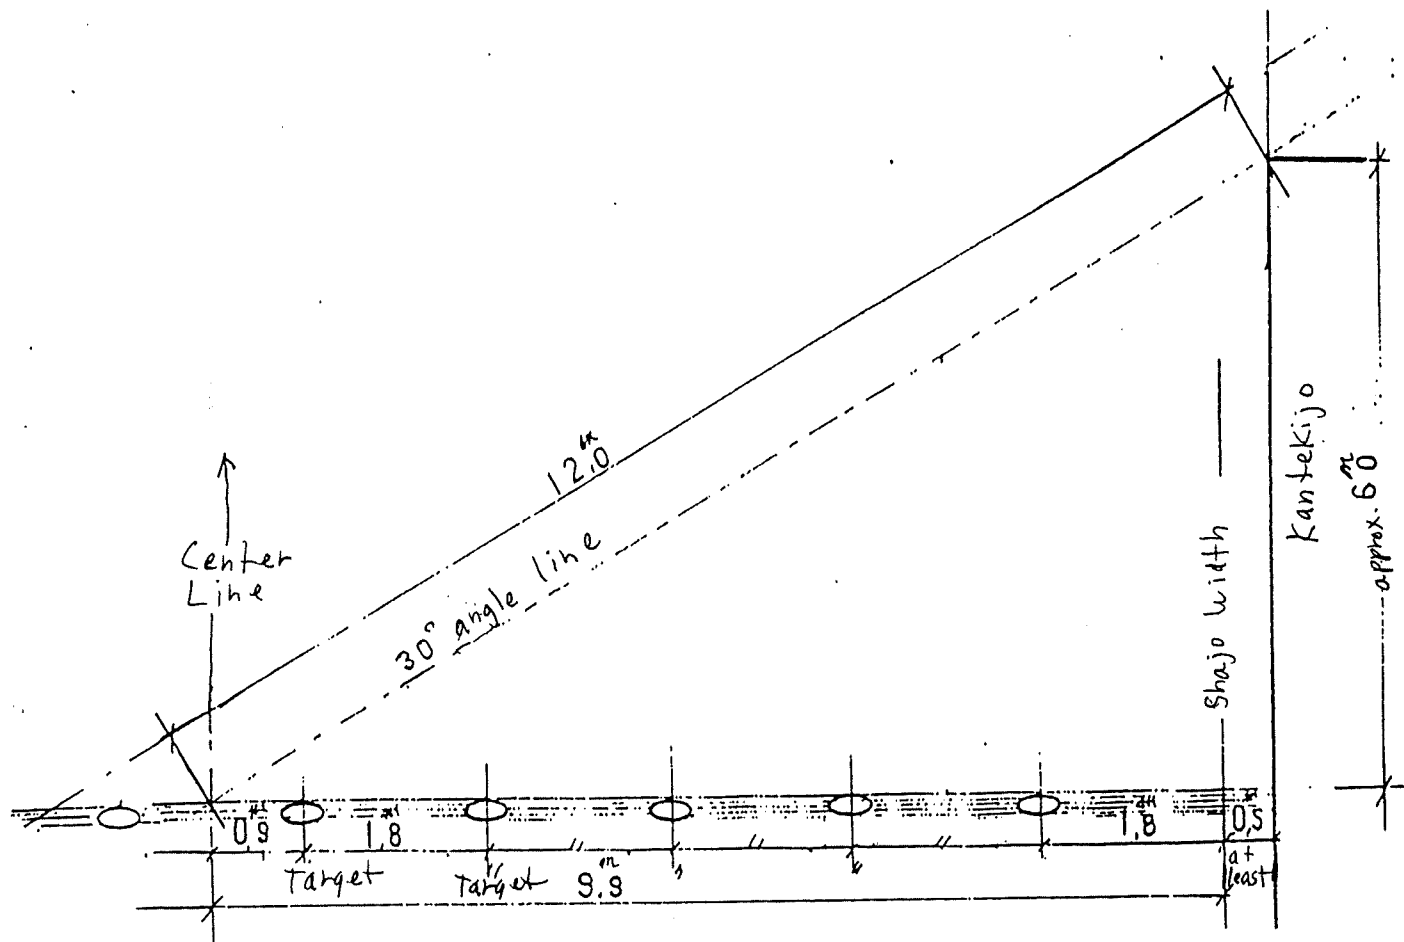

Figure 12 Relationship Of The Azuchi And The Kantekijo
4. Based on the above considerations, the kantekijo should extend to a point about 6 meters in front of the targets. Using the dimensions shown in Figure 12 as a guide, you should design your kantekijo based on the situation that prevails in the dojo you are building.
(Note: As can be seen from the drawing in Figure 12, the determination that the kantekijo should extend to a point 6 meters in front of the targets is based on the assumption that the dojo has an azuchi wide enough for ten targets. The dojo we have been discussing would be about half that size, designed for 5-6 people to shoot at a time.)